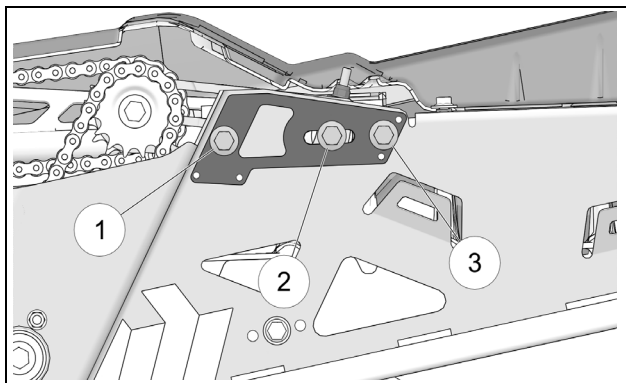

Figure 8
- Re-tighten chain tensioner mounting bolts (1), (2) and (3) to 90 N-m [67 lb-ft] of torque. See Figure 8.